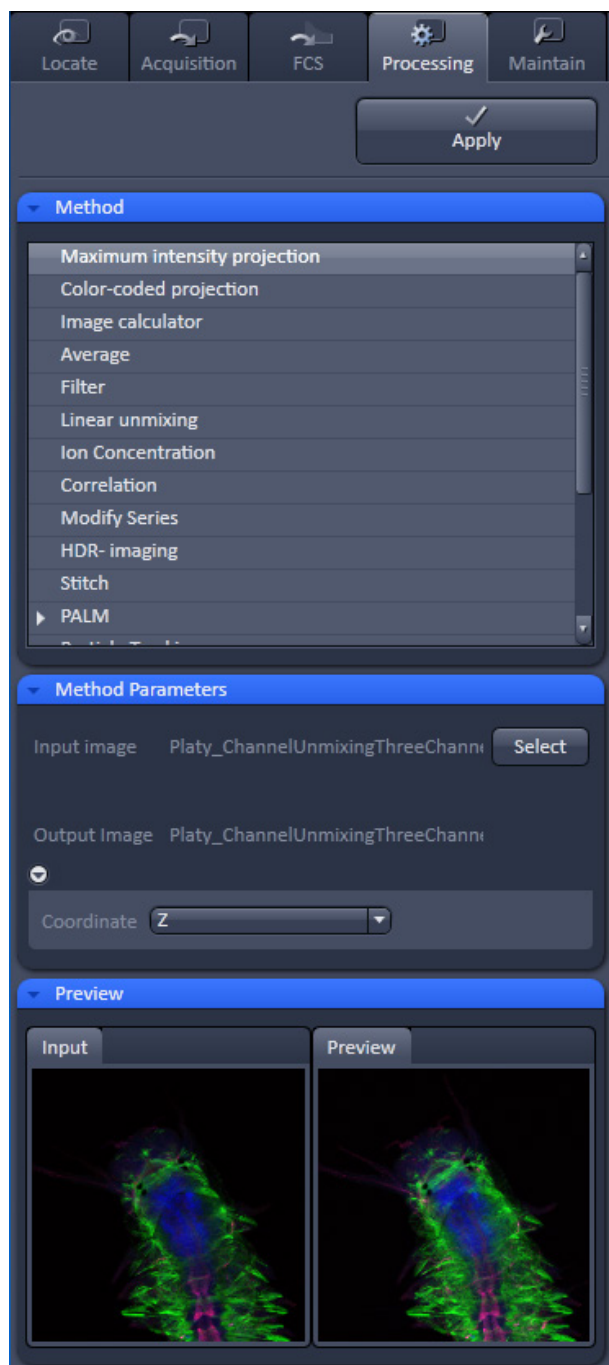

**Fig. 396** Airyscan Processing tool:
- For batch processing press the **Run Batch** button (Fig. 396) and select the respective directory and files from the file selection window which opens at the top.